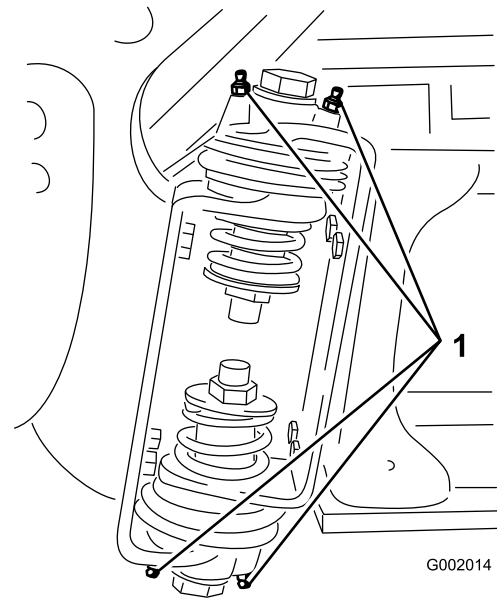

Figure 42
2. Pump grease into the bearing or bushing at each fitting (Figure 42).